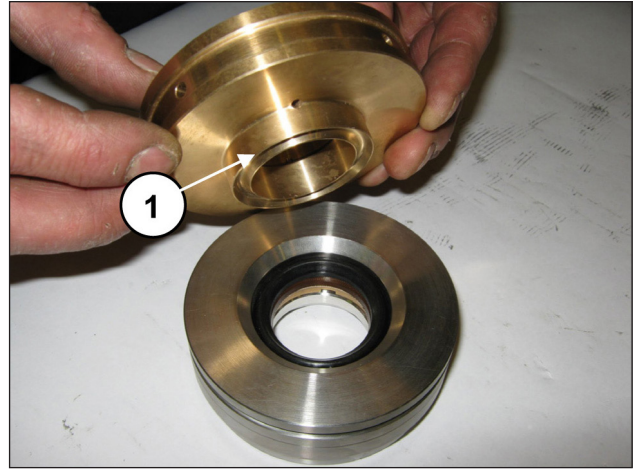
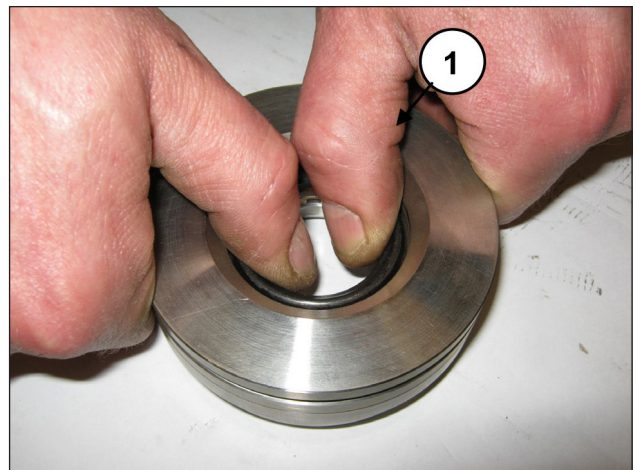

Fig. 178
Fig. 179
Separate the seal support from the liner (pos. ①, Fig. 178) to access the pressure seals (pos. ①, Fig. 179).